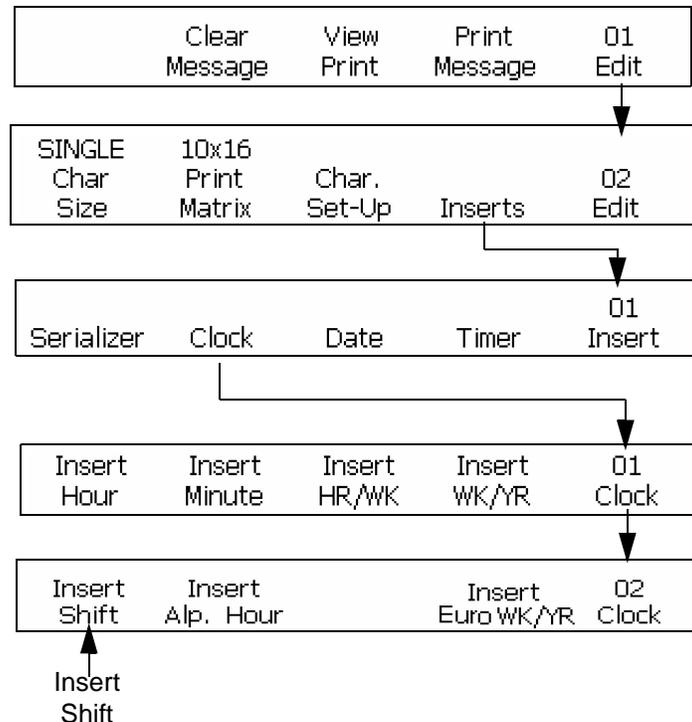

Figure 6-42: Inserting a Work-shift Code into a Message
- 1 Begin in the Frame <02 Clock>. Refer to Figure 6-42.